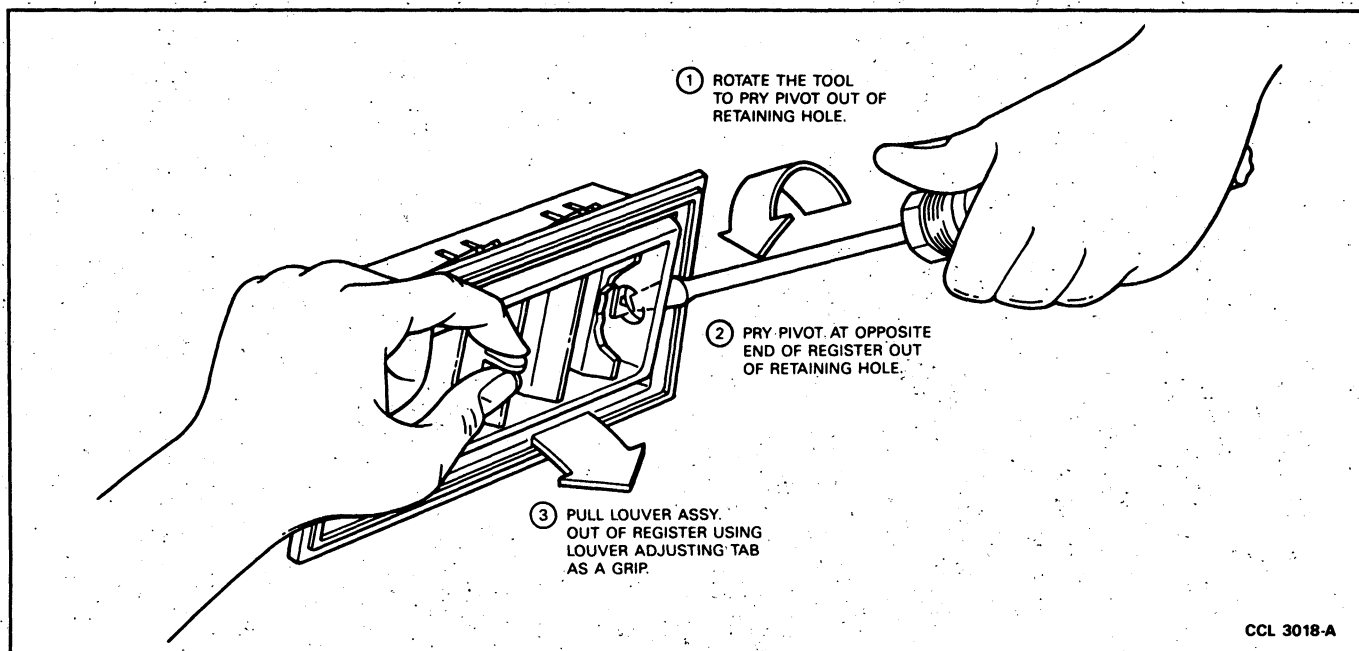

FIG. 19 Register Louver Removal
1. Insert a thin-blade screwdriver under retaining tab (Fig. 19) and pry retaining tab toward louvers until retaining tab clears hole in register assembly.